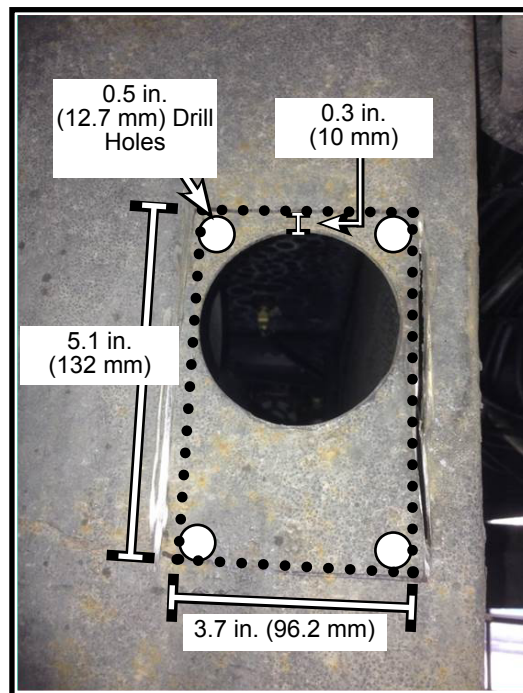

Figure 2 - Cutting Dimensions and Details on the Reservoir Plate
- 1.3. Once the steering shaft is removed, drill four 0.5 in. (12.7 mm) holes around the steering shaft port in the reservoir plate. See Figure 2 for details.
- 1.4. Use a cutting wheel to cut straight from one drill point to the next until a rectangle is cut out. See Figure 2.